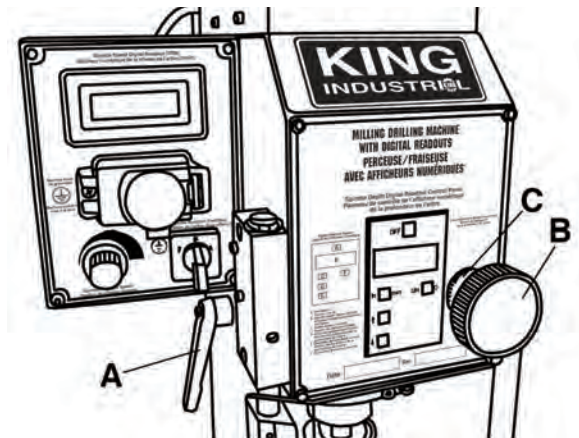
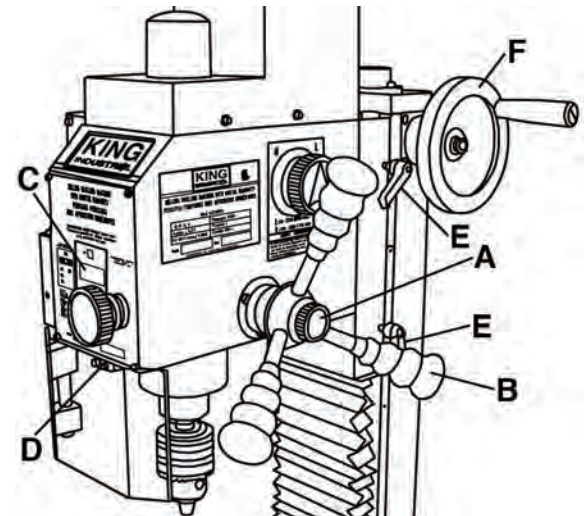

FIGURE 12
FIGURE 13
The spindle depth can be manually controlled by the downfeed handles and the fine feed knob. Refer to fig.12 & 13.
- 1) Unlock the quill lock handle (A) Fig.12.
- 2) Loosen the fine feed lock knob (A) Fig.13.
- 3) Pull down on the downfeed handles (B) Fig.13 to adjust the depth of the spindle. Observe the spindle depth digital readout (C) or scale (D) to monitor the movement.
- 2) Tighten the fine feed lock knob (A) Fig.13.
- 3) Rotate the fine feed knob (B) Fig.12 to lower or raise the spindle in small increments. Observe the spindle depth digital readout (C) Fig.13 or the fine feed scale (C) Fig.12 to monitor the movement.
- 1) Unlock the head lock handles (E) Fig.13.
- 2) Turn the head handwheel (F) Fig.13 to raise or lower the head, once the position is adjusted, retighten head lock handles (E) Fig.13.